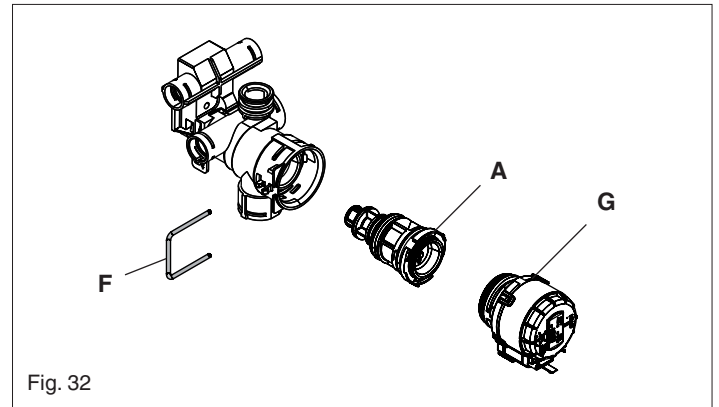

Fig. 32
6.20 VALVE ACTUATOR (fig. 32)
6.21 DIVERTOR VALVE ASSEMBLY (fig. 32)